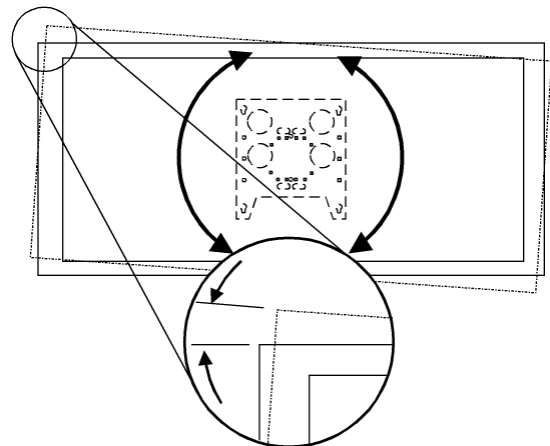

FIGURE 14. LEVEL THE FACEPLATE
4. Level the faceplate by turning the faceplate clockwise up to 2 degrees or turning counterclockwise up to 2 degrees (see Figure 14).